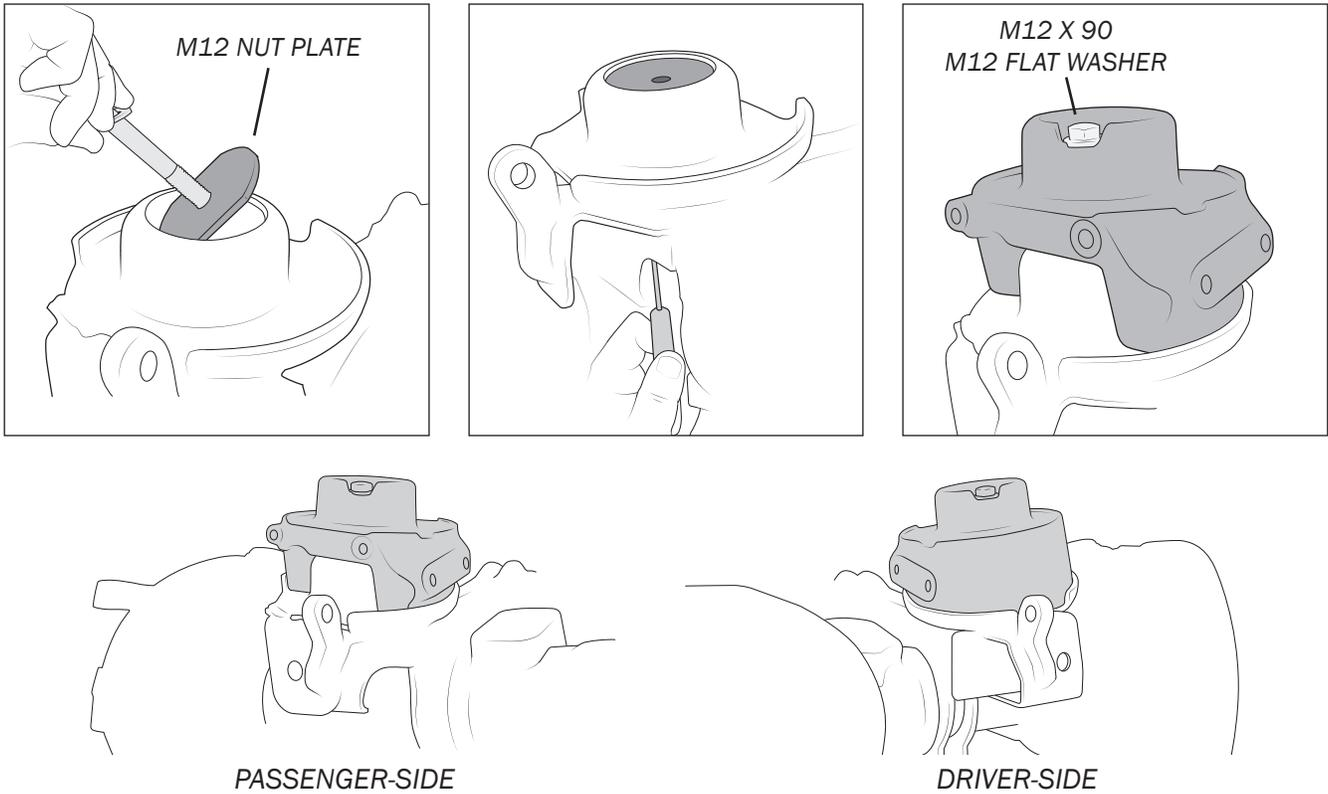

Figure 14
4. Install AEV coil spacers to the axle using hardware bag #2. Leave loose at this time (fig. 14).